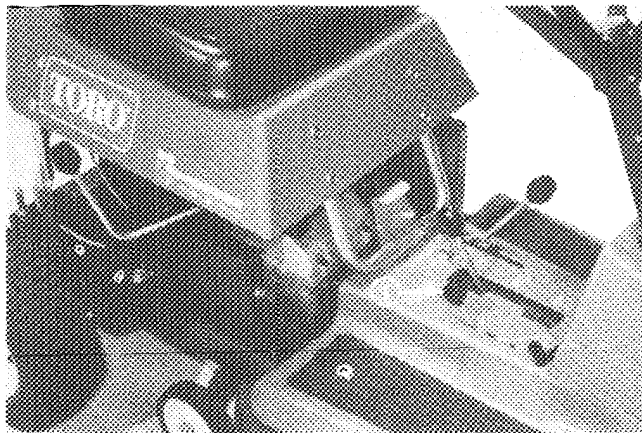
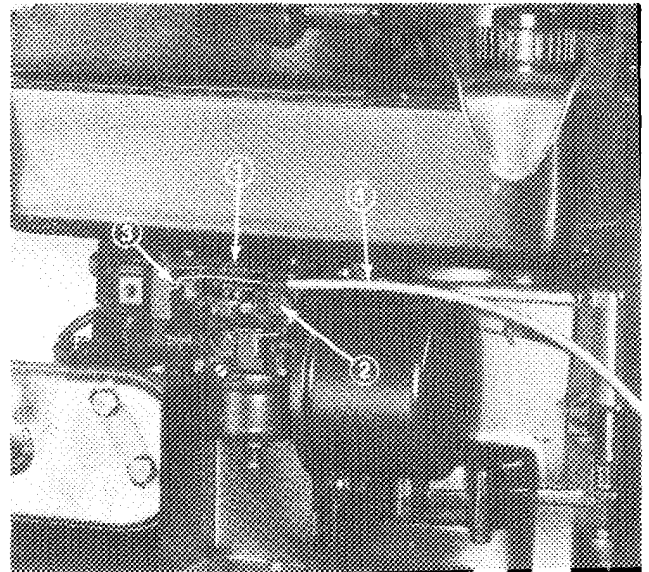

Figure 23
Figure 24
1. Move throttle control into **FAST detent** position (Fig. 23). Hole in carburetor control arm and hole in plate must line up (Fig. 24). If holes line up proceed to step 3. If holes do not line up, an adjustment is required: proceed to step 2.
2. Loosen cable clamp screw and move control arm and cable until holes line up (Fig. 24). When holes are aligned, tighten cable clamp screw to hold cable in place (Fig. 24).
4. Insert element into air cleaner cover. Mount air cleaner assembly on screws and rotate it clockwise. Tighten screws so parts seat together (Fig. 24).